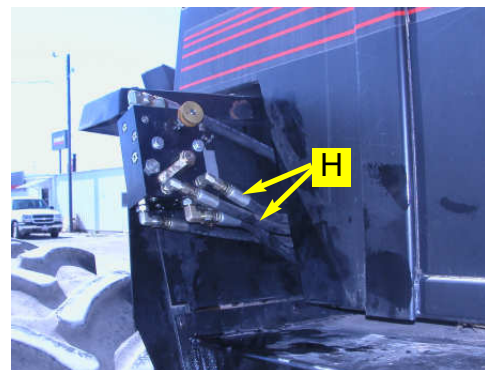

Figure 6a. Installed steering output hoses.
- a. Install the provided steering output hoses (**H**) between the run tees installed in step 5b and the **A** and **B** ports of the Automated Steering Block. (Figure 6a. and 6b.)